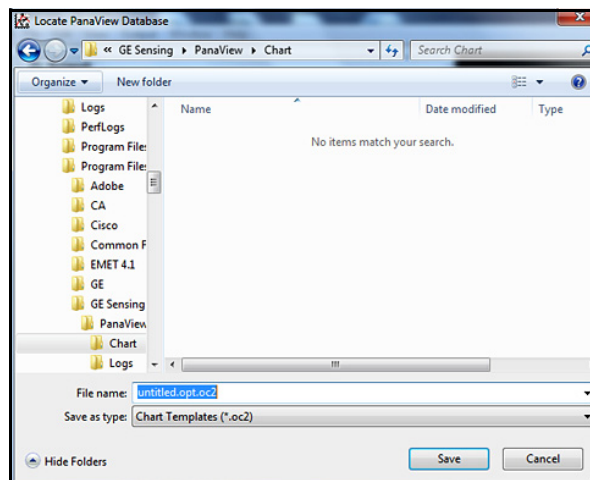

Figure 68: The Save Chart Style Dialog Box
- Click "Save Chart Style" option to save only the current graph properties (and not the parameters to be graphed) as a template for future graphs. When the dialog box in Figure 68 below opens, enter a name for the chart (graph) template file and click the [Save] button to save the file as: